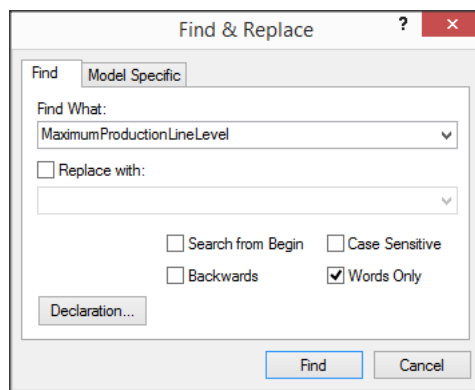

Figure 9.3: The **Find & Replace** dialog box
- ▶ enter 'MaximumProductionLineLevel' using the name completion facility (see Figure 9.3), and